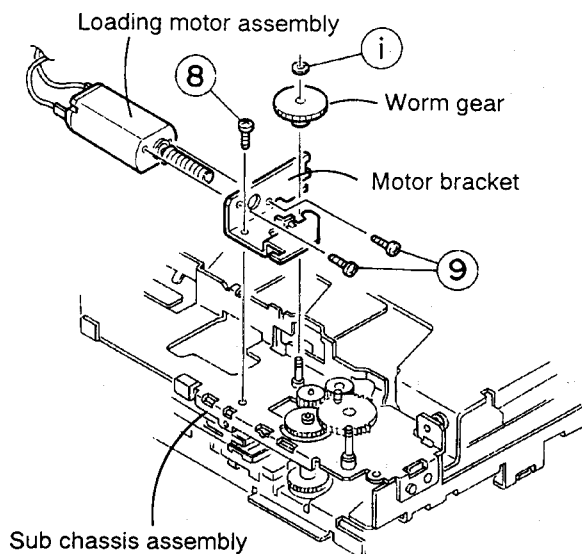

Fig. 2-21
(Fig. 2-21)
4. Remove the screw ⑧ fixing the loading motor assembly. (Fig. 2-21)
5. Remove the two screws ⑨ fixing the loading motor assembly. (Fig. 2-21)